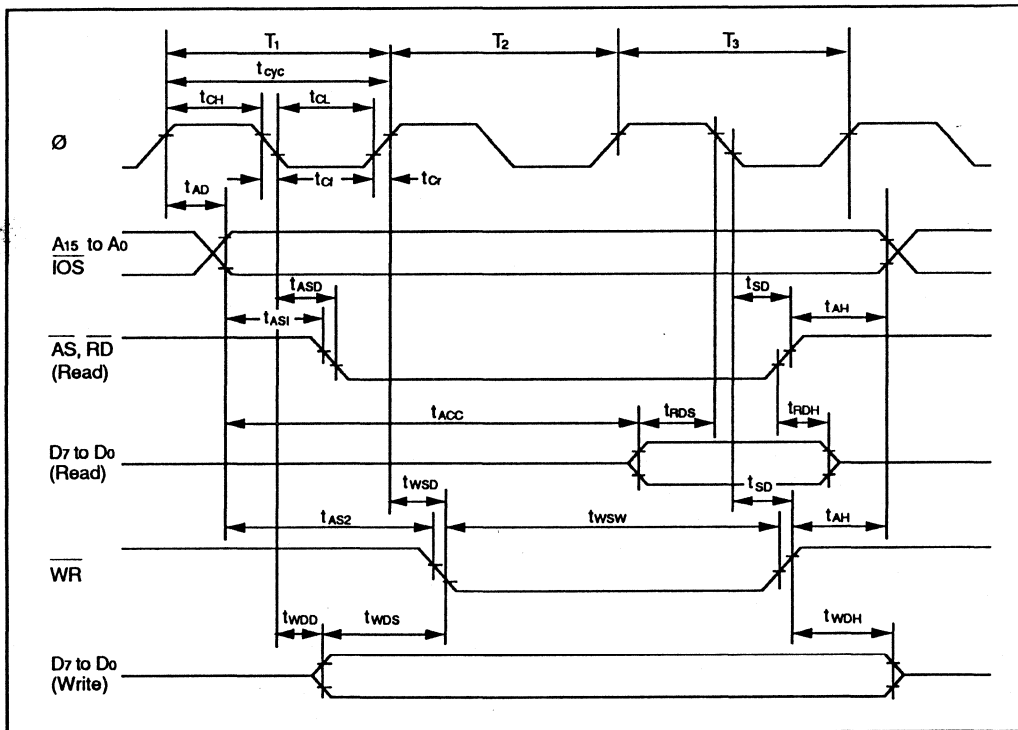

Figure 17-4. Basic Bus Cycle (Without Wait States) in Expanded Modes
17.3.1 Bus Timing	Figures 17-4 to 17-6